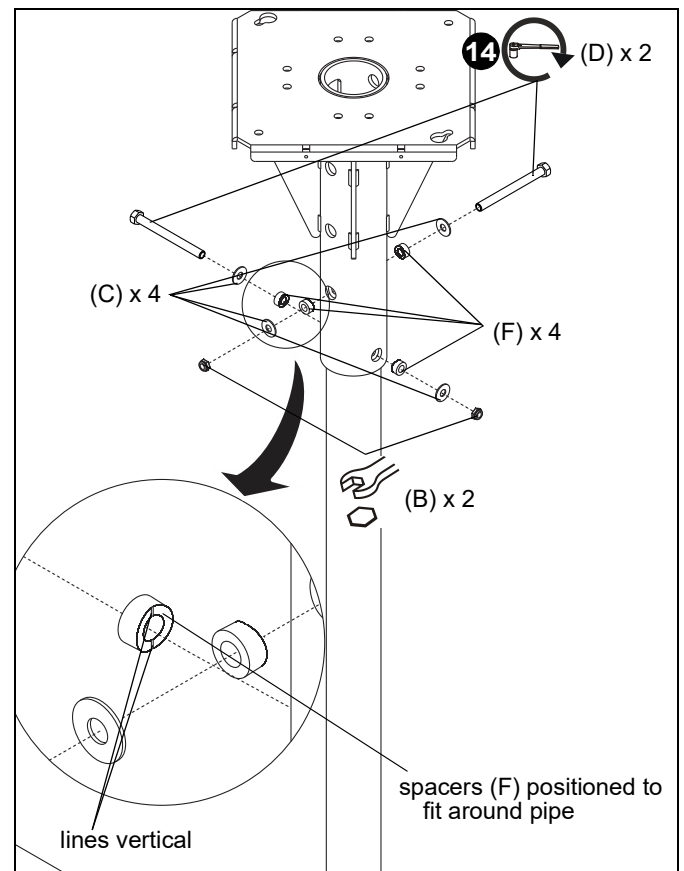

Figure 8
14. Use two 3/8-16 x 4" hex head bolts (D), four washers (C), four spacers (F) and two 3/8-16 hex nuts (B). (See Figure 8)